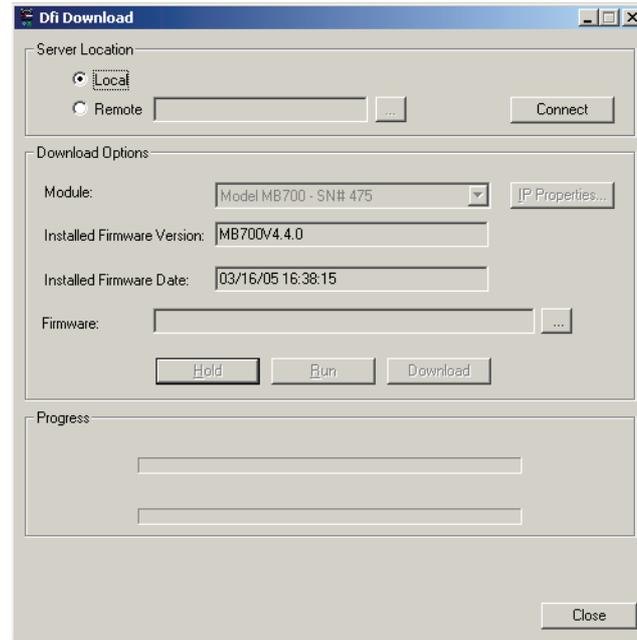

Figure 2.11 – Dfi Download – Connect (2)
17. Be sure the HOLD LED is ON. After stopping the firmware execution in the module, the window, represented by Figure 2.11, will appear again.